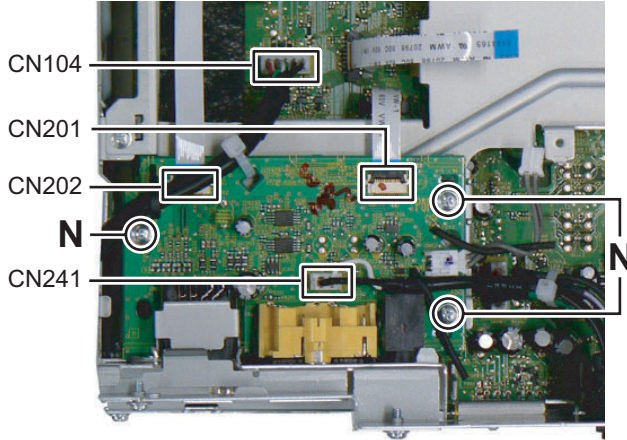

Fig.12
- (2) Disconnect the card wire from Main board connected to connectors CN201 and CN202 of the Sub amp board. (See Fig.12)
- (3) Disconnect the Car cable connected to connector CN104 of the Main board. (See Fig.12)
- (4) Disconnect the Car cable connected to connector CN241 of the Sub amp board. (See Fig.12)
- (5) Remove the three screws **N** attaching the Sub amp board. (Se Fig.12)